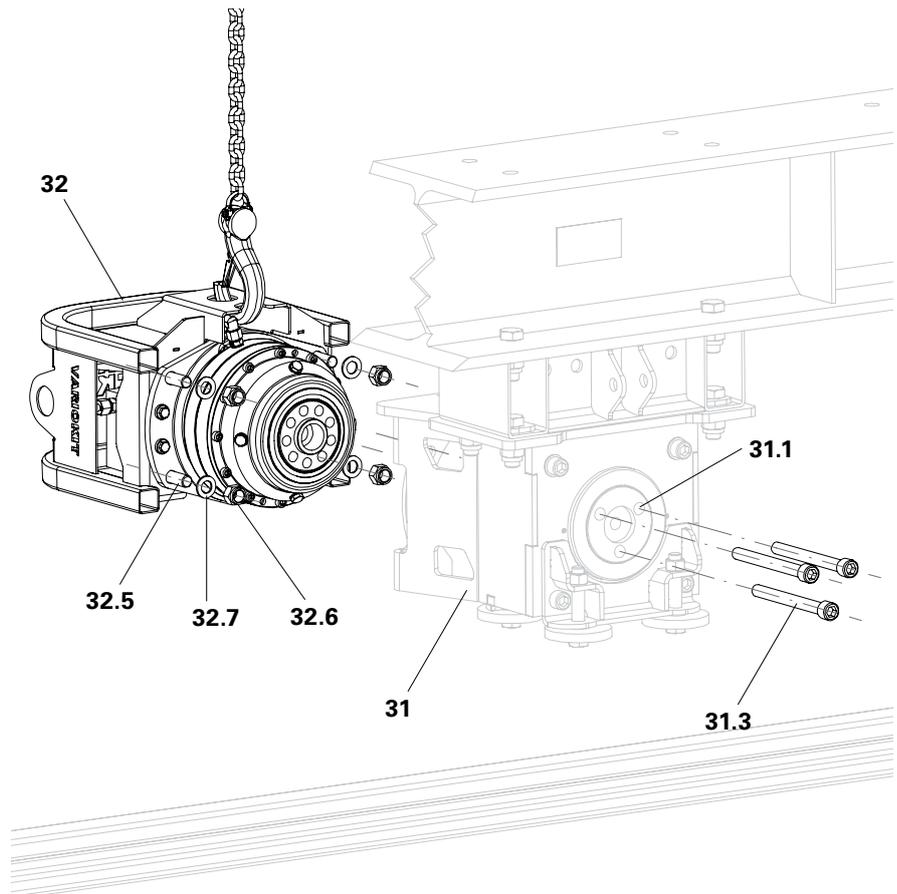

Fig. B4.10a
3. Attach the hydraulic drive (32) to the crane lifting gear and fly in.
4. Position the hydraulic drive in front of the wheel block (31) and then carefully push into the wheel block.
5. Fix the hydraulic drive to the wheel block with bolts M20x70 (32.5), washers M20 (32.7) and nuts M20 (32.6). (Fig. B4.10a + B4.10b)